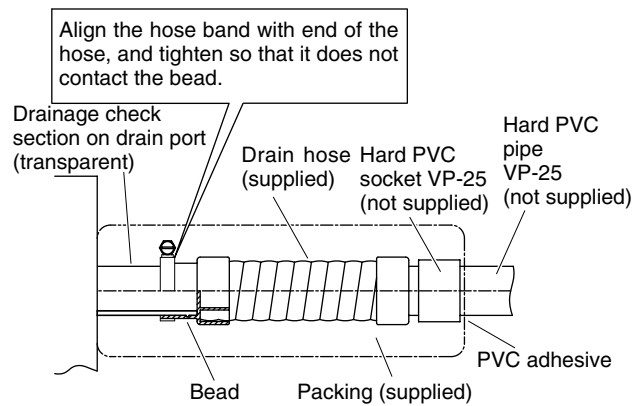

Fig. 3-141a
- (1) Prepare standard hard PVC pipe (O.D. 32 mm) for the drain and use the supplied hose band to prevent water leaks. The PVC pipe must be purchased separately. The transparent drain part on the unit allows you to check drainage. (Fig. 3-141a)
- Tighten the hose clamps so their locking nuts face upward. (Fig. 3-141a)